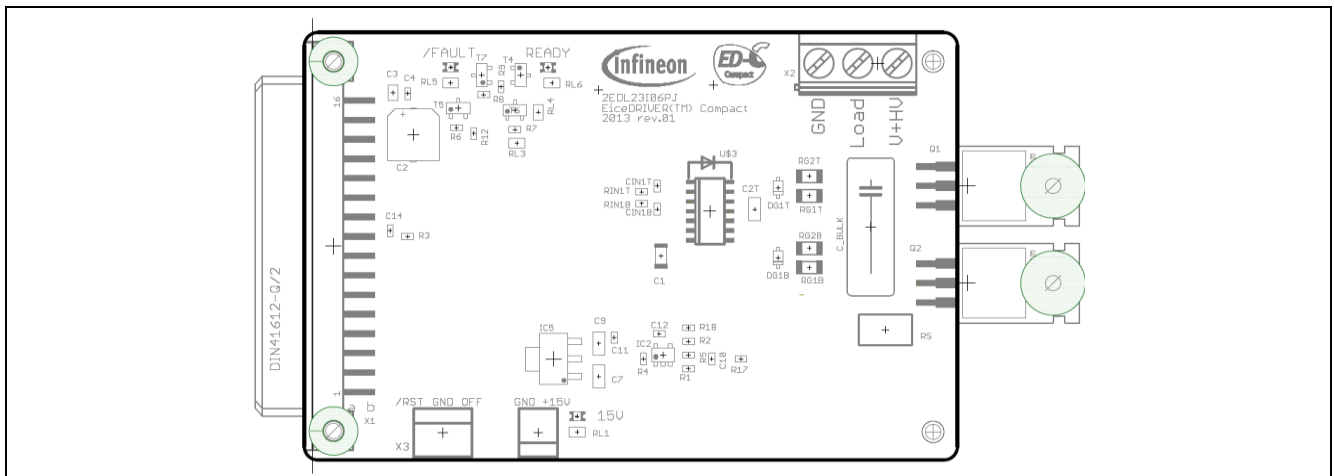

Figure 21 Top place view of the EVAL-2EDL23I06PJ
*see Figure 21 for connector pin numbering